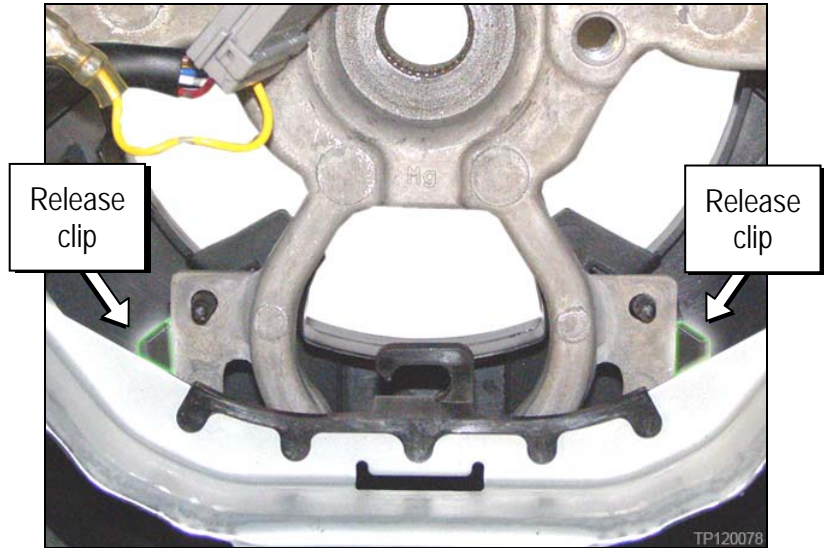

Figure 1
- a. Push and release the two (2) clips shown in Figure 1.